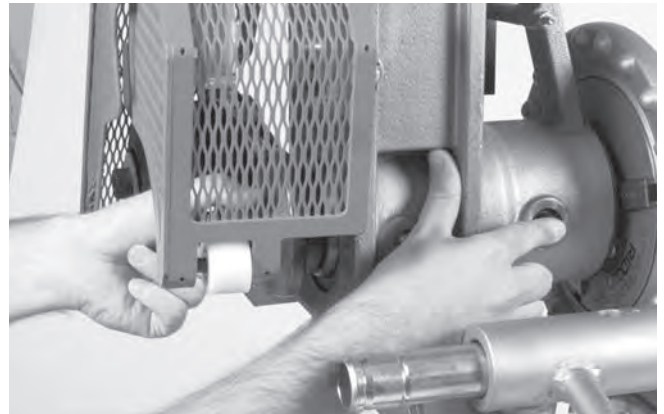
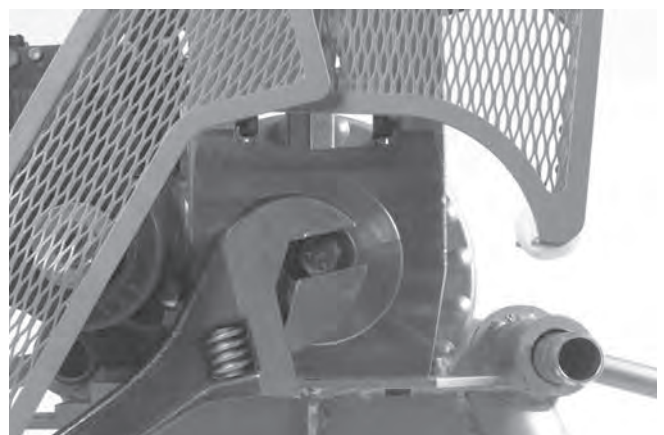

Figure 20 – Engaging Lock Pin and Removing Drive Roll
Figure 21 – Loosening The 5/8" Draw Bolt
5. Engage the locking pin in the drive shaft by manually spinning the drive shaft (*Figure 20*). Loosen the 5/8 draw bolt (15/16 hex) (*Figure 21*) and remove the drive roll.